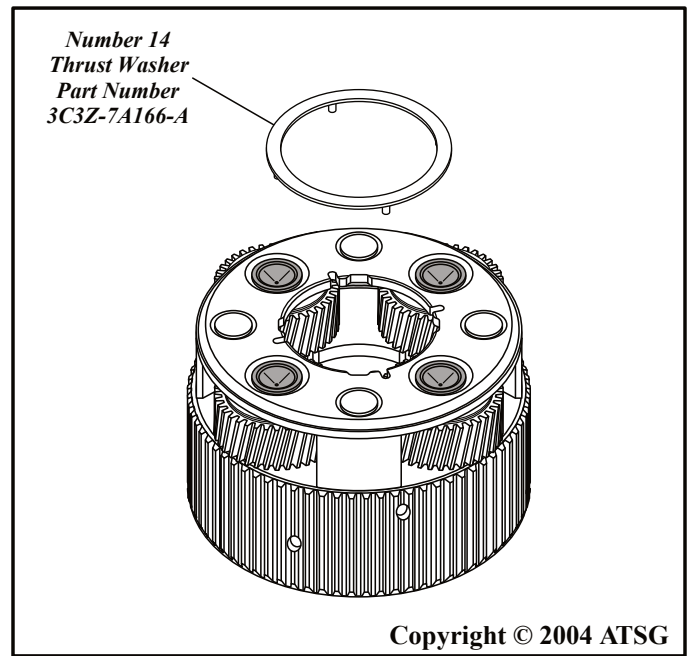

Figure 155
7. Install the number 14 thrust washer on the rear planetary carrier, as shown in Figure 155, and retain with Trans-Jel®.